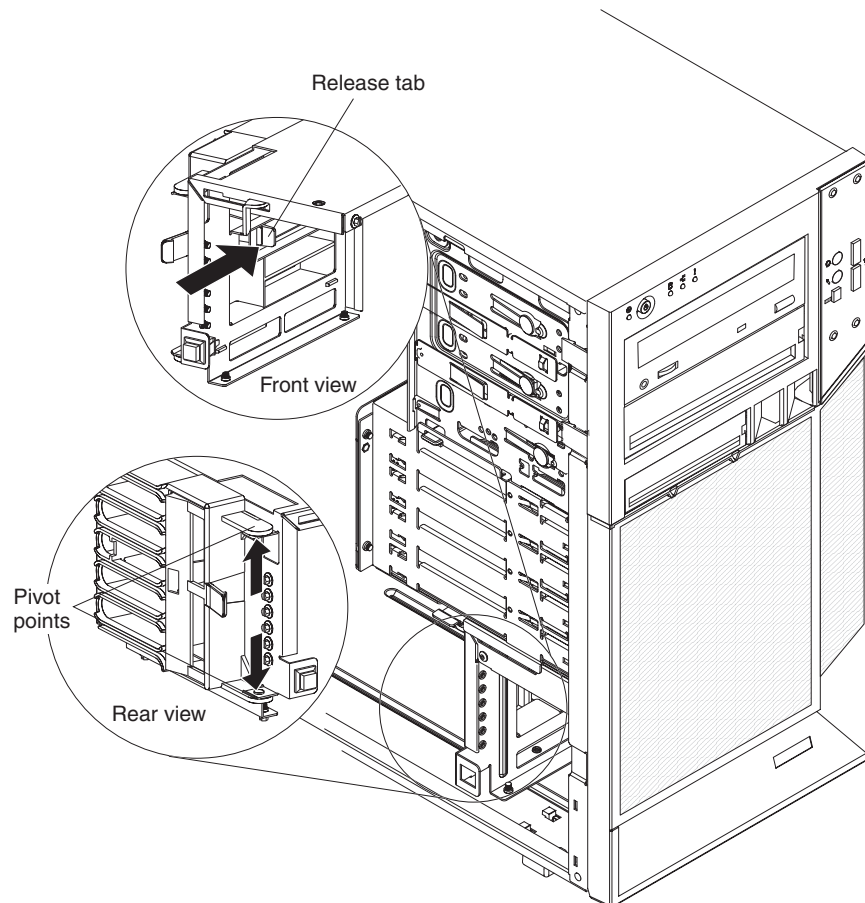

Figure 46. Installing the front adapter-retention bracket
1. Engage the top and bottom sides of the front adapter-retention bracket with the front adapter-retention bracket openings in the chassis (see Figure 46).